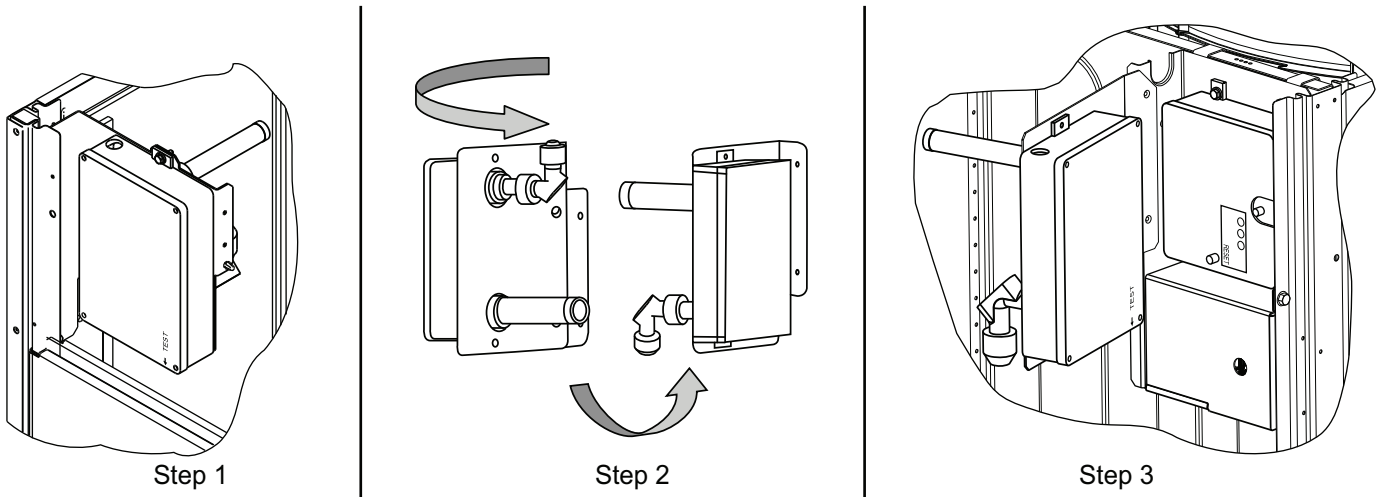

Fig. 78 — Completing Installation of Return Air Smoke Sensor
1. Unscrew the two screws holding the return-air smoke detector assembly. See Fig. 78, Step 1.
3. Turn the assembly 90 degrees and then rotate end to end. Make sure that the elbow fitting is pointing down. See Fig. 78, Step 2.
4. Screw the sensor and detector plate into its operating position using screws from Step 1. See Fig. 78, Step 3.